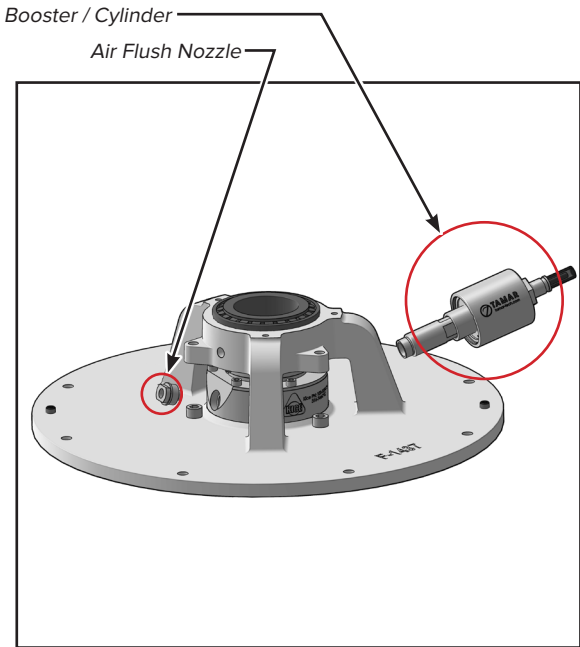

FIGURE 19
- 7. Remove air flush nozzle from dynamic seal (figure 19).
- 8. Remove booster/cylinder assembly from the dynamic seal (figure 19).
- 19. Reinstall air flush nozzle and booster/cylinder assembly (figure 19).